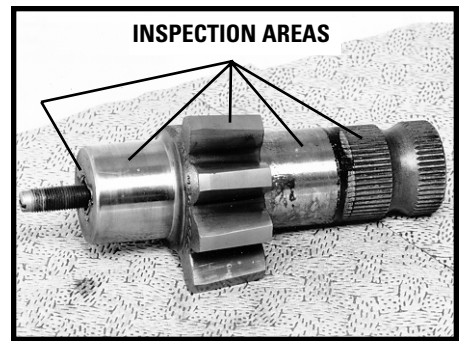

Figure 93
7. Inspect the sector shaft (50) bearing and sealing areas and sector teeth contact surfaces for brinelling or spalling. SEE FIGURE 93. Run your fingernail edge across these areas to detect steps. Inspect also for cracks. Remove any masking tape from the shaft serrations and inspect for twisted or otherwise damaged serrations. If any of these conditions exist, replace the sector shaft.